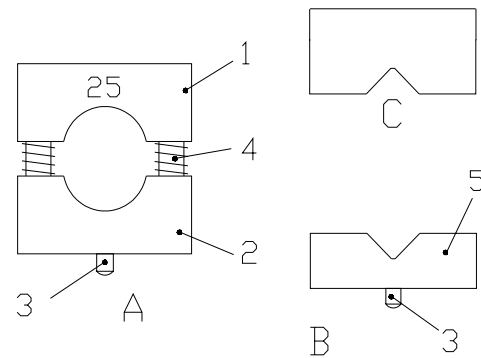

Fig. 38
To cut round specimens, the insert for round specimens (fig. 38.A) with defined diameters of 6, 15 and 25 mm (special sizes on request) or the V-insert (fig. 38.B) can be clamped into the standard specimen clamp.
- To fasten the V-distance piece (fig. 38.C) on the fixed jaw (fig. 37.2) of the standard specimen clamp, the clamping screw (fig. 37.3) must be unscrewed from the spindle. Pull the spindle off the clamp.